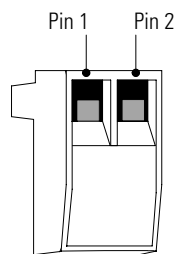

Figure 16. REPO Connector
3. Connect isolated, normally-open, dry contacts (rated to handle 60 Vdc maximum, 30 Vac RMS maximum, and 20 mA maximum) across the REPO device to Pin 1 and Pin 2 (see Figure 16). Use stranded, non-shielded wiring, size 0.75 mm²–0.5 mm² (18–20 AWG).